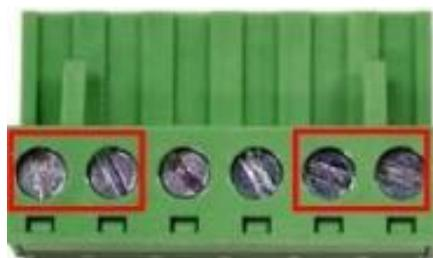

Figure 2.7.2
2. Tighten the wire-clamp screws to prevent the wires from loosening, as shown below in *Figure 2.7.2*